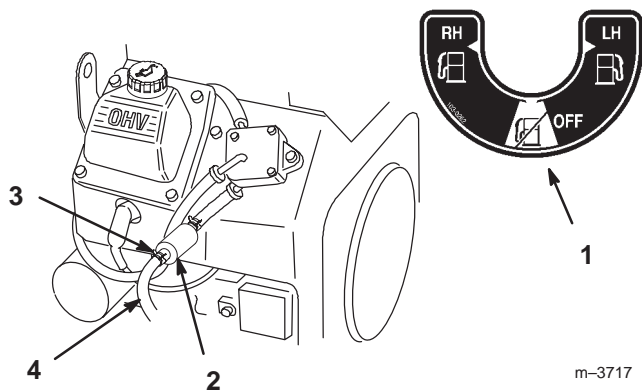

Figure 41
5. Install a new filter and move the hose clamps close to the filter (Fig. 41).
2. Close fuel shut-off valve (Fig. 41).
3. Loosen the hose clamp at the fuel filter and slide it up the fuel line away from the fuel filter (Fig. 41).
4. Pull the fuel line off fuel filter (Fig. 41). Open fuel shut-off valve and allow gasoline to drain into a gas can or drain pan.
5. Install the fuel line onto the fuel filter. Slide the hose clamp close to the fuel filter to secure the fuel line (Fig. 41).